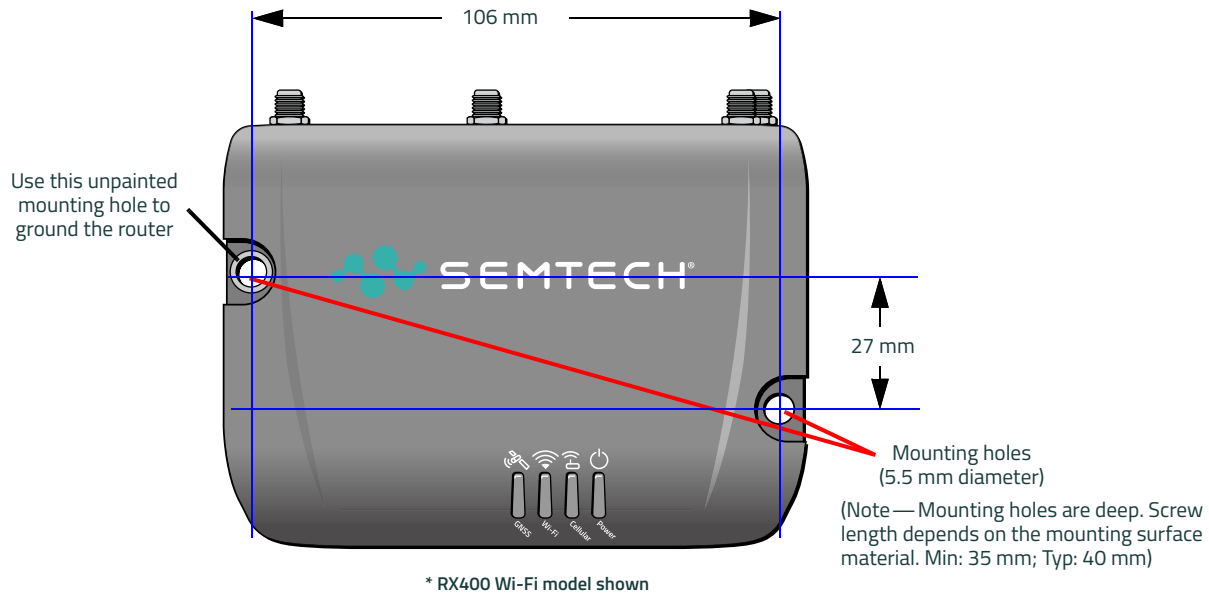

Figure 2-2: RX400/EX400 Router Mounting Holes
Semtech strongly recommends always grounding the router using the unpainted mounting hole (grounding point) shown in Figure 2-2 on page 22.
The RX400/EX400 router has 2 mounting holes, as shown in Figure 2-2. For mounting screw specifications (including recommended screw lengths), see Screw Specifications on page 66.
- Connect one end of a short 18 AWG or larger gauge wire to the unpainted upper left mounting hole (see Figure 2-2) and connect the other end to the system ground reference or (if mounted in a vehicle) the vehicle chassis.